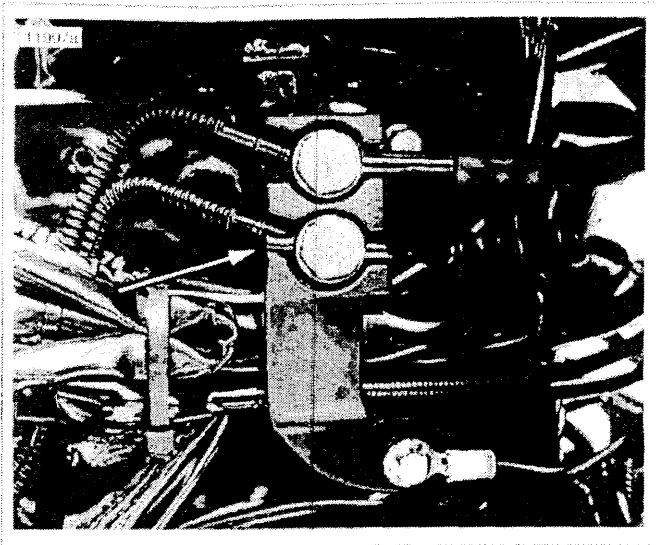

Figure 2. Incorrect Routing For Forward Brake Lines
- See Figure 2. Routing is incorrect when the front calipers brake line, with nipple, is installed in the lower manifold port.